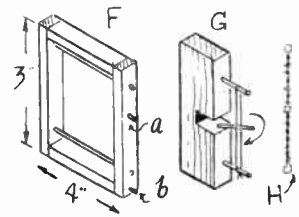

Fig. 3—The heddle frame
The heddle frame, Fig. 3 (F) is made to the dimensions given from  $\frac{1}{2}$ in. by  $\frac{1}{2}$ in. fretwood, glued and nailed together. Make it firm and square at its angles. At  $\frac{1}{2}$ in. down from the top and  $\frac{1}{2}$ in. up from the bottom bore  $\frac{1}{8}$ in. holes for pieces of steel rod to fit across, on which healds, which carry the warp, can be set.